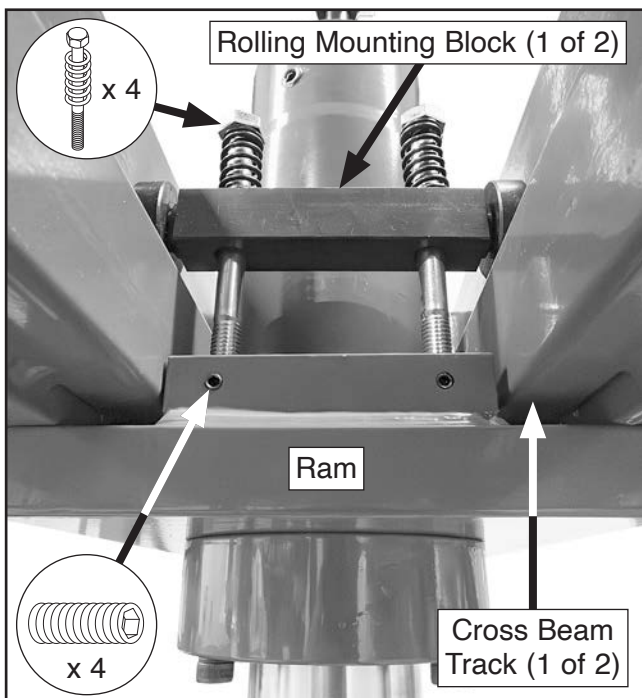

Figure 11. Hydraulic ram secured to rolling mounting blocks.
11. Loosen (4) set screws on ram mounting plate (see **Figure 11**).
12. Place (2) rolling mounting blocks on top of (2) cross beam tracks, and with help from an additional person, lift hydraulic ram between cross beam tracks and secure with (4) hex bolts from **Step 10** (see **Figure 11**).